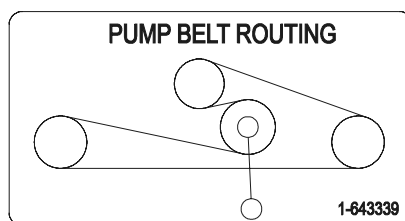

FIGURE 8
- c) Route new belt onto sheaves as shown in the decal located on the top of the radiator. See Figure 8.
g) If park brake does not fully disengage when the lever is disengaged check the brake rod linkage assembly. The assembly should measure 7-3/8" (18.7 cm) from the center of the ball joint to the center of the lower end of the linkage rod. See Figure 8.